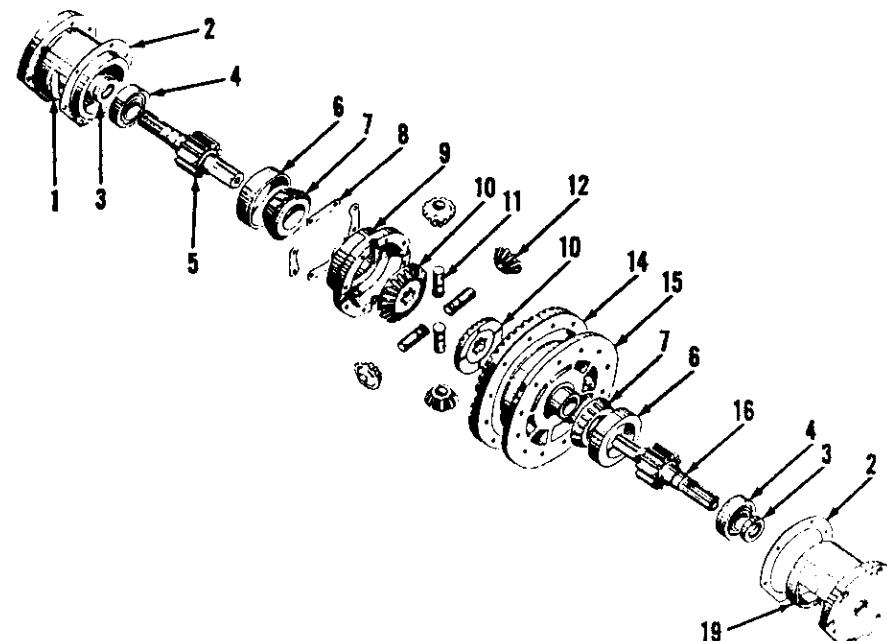

Fig. 115—Exploded view of differential, bull pinion shafts and associated parts. Shims (2) control carrier bearing preload and gear backlash adjustments.
169. DIFFERENTIAL BEARING PRELOAD. Prior to making either the mesh or backlash adjustments, the preload on the differential carrier bearings should be established. To adjust the taper roller bearings (7—Fig. 115), first install more than enough shims (2) under each of the differential bearing cages so that differential has a slight amount of end play and make certain there is some backlash between the ring gear and pinion. Wind a cord around the machined diameter of left differential case half, attach spring scale to end of cord and check the amount of pull required to keep the differential rolling once it has started. Record this reading.
After the carrier bearings are adjusted as outlined in paragraph 169, and the mesh position, adjusted as outlined in paragraph 170, the backlash can be adjusted as follows: Transfer shims (2—Fig. 115) from under one bearing cage to the other to provide correct backlash between teeth of the main drive bevel pinion and bevel ring gear. The backlash value will be etched on the outer machined face of the ring gear and may vary between gear sets. To decrease backlash, remove shim, or shims, from cage on bevel ring gear side of housing and install same under cage on opposite side. Only transfer shims, do not remove shims or the previously determine carrier bearing adjustment will be changed.
174. To inspect and/or overhaul removed differential, straighten lock plates (8—Fig. 115), unbolt and separate the differential case halves. Pinion shafts (11) can be driven off pins at this time. Any further disassembly and/or overhaul is obvious after an examination of the unit.